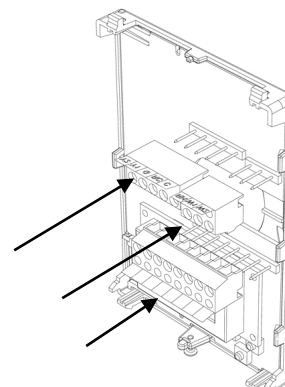

Fig. 5
11. Gently push back into hole excess wiring **(Fig. 5)**
12. Re-Install wiring terminals in correct location. **(Fig. 5)**